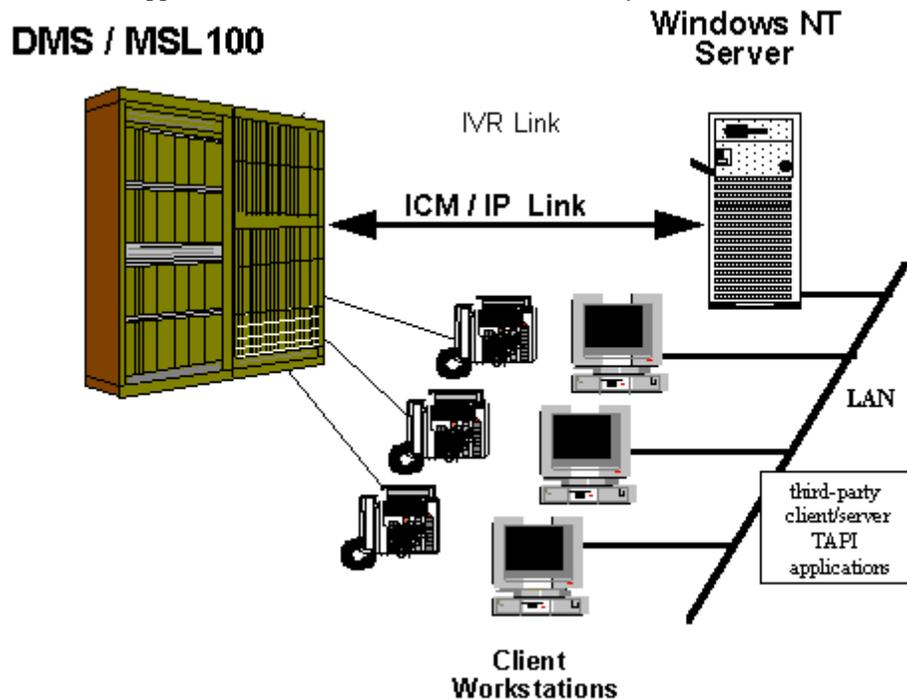

Figure 2 DMS / MSL-100 with TCP/IP Configuration
- Figure 2 DMS / MSL-100 with TCP/IP Configuration 13**